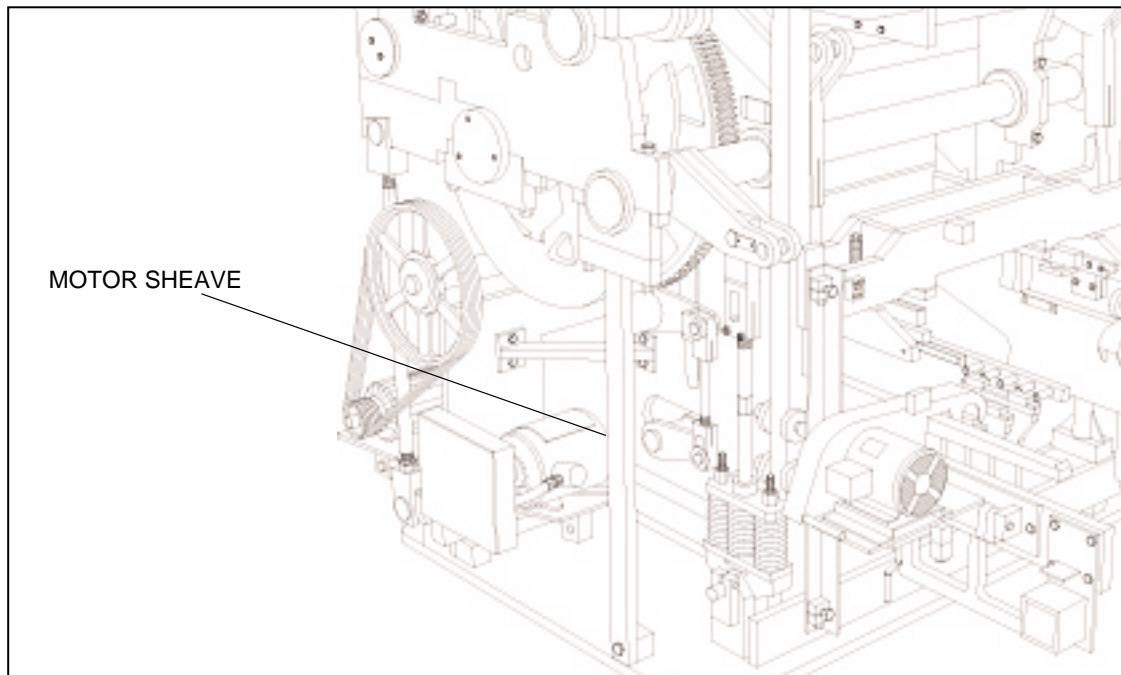

Figure 18.18 MOTOR SHEAVE.
18.1.11 This adjustment procedure uses gravity to strip the units from the mold. With some product it may be necessary to reduce the size of the sheave on the drive motor by approximately 15% to prevent the machine from overrunning the strip (see figure 18.18).